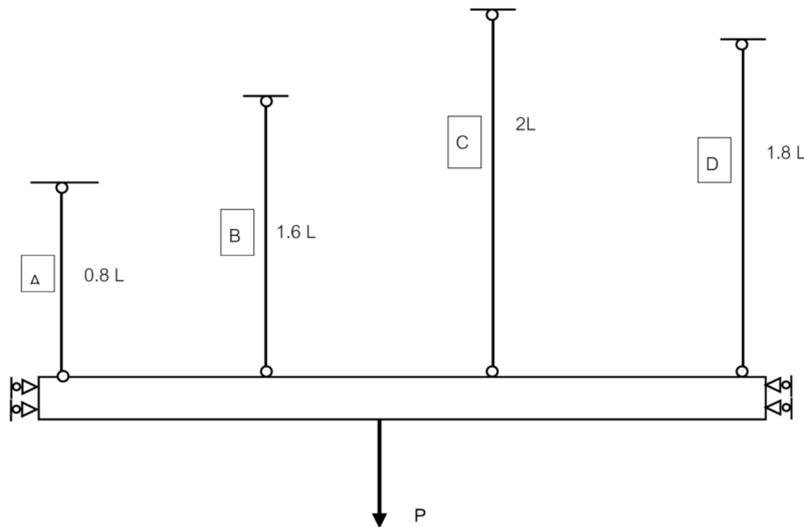

Figure Q.7
- 7 A rigid plate is attached using four wires as shown in Figure Q.7. Material of wires is steel with an elastic-perfectly plastic stress strain behaviour. The cross sectional area of each wire is 25 mm^2 . Where $L = 1200 \text{ mm}$, $E = 200,000 \text{ MPa}$, $f_y = 600 \text{ N/mm}^2$.